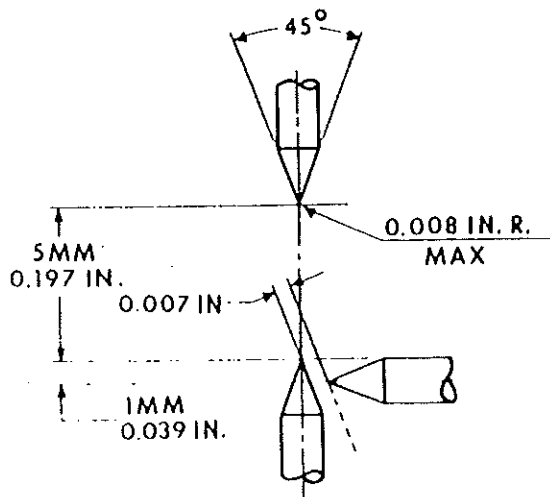

Figure 301. 5 mm Spark Gap Setting
A. Mount magneto on a 11-10500 test stand. Connect high tension outlets to spark gaps on test stand using a standard high tension harness assembly. The spark gaps must be set at 5 mm (0.197 in) as shown in Figure 301.